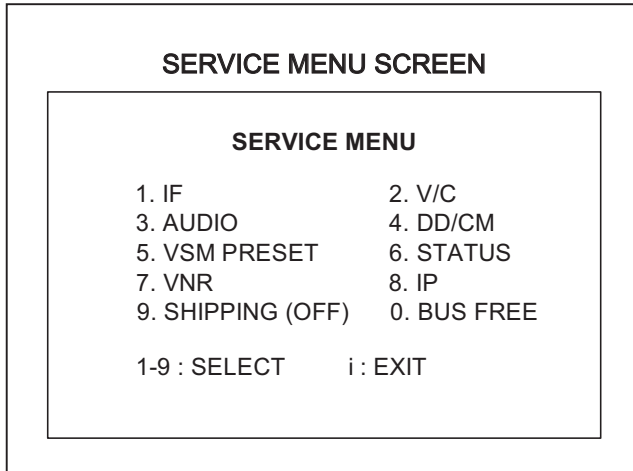

Fig.4
- (1) Press the [INFORMATION] key and the [MUTING] key of the REMOTE CONTROL UNIT simultaneously, and the SERVICE MENU screen of Fig.4 will be displayed.
- (2) When the Main Menu is displayed, press any key of the [1] to [0] key to enter the corresponding menu mode.
- (3) Select the service item using the [FUNCTION (▲/▼)] key.
- (4) Set the value using the [FUNCTION (◀/▶)] key.
- (5) Press the [OK] key to save the value.